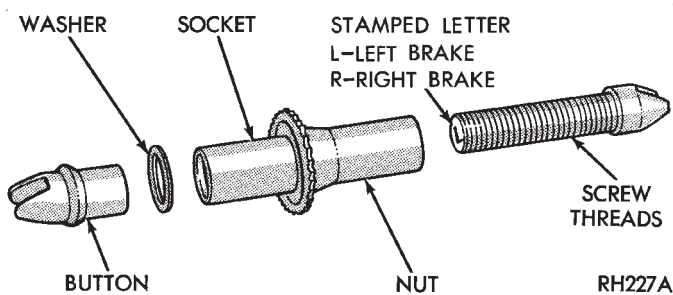
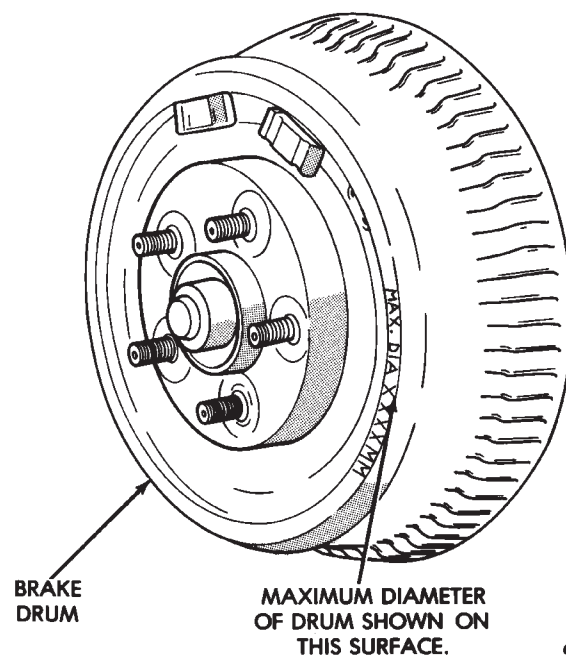

Fig. 8 Adjuster Screw Assembly
Fig. 1 Drum Maximum Diameter Identification
Clean the brake support plate, using a suitable solvent. Then inspect for rough or rusted shoe contact areas. Clean and inspect the adjusting screws for damaged threads. Apply a thin film of lubricant such as Mopar® Multi-Purpose Lubricant or equivalent to the adjuster threads, socket and washer (Fig. 8). Replace adjuster screw assembly if corrosion of any part inhibits very free operation.
(7) Insert protruding hole rim of cable guide (Fig. 1 or 2) into hole in secondary shoe web. Holding guide in position, engage secondary shoe return spring through both, hole in guide, and hole in web. Using Installer, Special Tool C-3785, install spring over anchor (Fig. 3). (Be sure cable guide remains flat against shoe web and that secondary spring overlaps primary (Fig. 1 & 2). Using pliers, squeeze ends of spring loops (around anchor) until parallel.
(8) Install adjuster screw assembly (Fig. 8) between primary and secondary shoes, with star wheel of adjuster screw assembly next to secondary shoe (Fig. 1 & 2). The left star wheel adjusting stud end is stamped (L) (indicating its position on the vehicle) and the star wheel is cadmium plated (Fig. 8). The right star wheel is black and the adjusting stud end is stamped (R). Install shoe to shoe spring between shoes (Fig. 1). (Engage primary shoe first).
(9) Install adjusting lever spring (Fig. 1 & 2) over pivot pin on shoe web. Install adjusting lever under spring and over pivot pin. Slide lever slightly rearward to lock in position.
(10) Thread adjuster cable over guide and hook end of overload spring in lever (Fig. 1 & 2). (Be sure eye of cable is pulled tight against anchor and in a straight line with guide). Check operation of automatic application adjuster by pulling adjuster cable rearward, star wheel should rotate upwards.
All drums will show markings of maximum allowable diameter (Fig. 1). For example, a drum will have a marking of MAX. DIA. 231.0 mm (9.09 inch). This marking includes 0.76 mm (0.030 inch) for allowable drum wear beyond the recommended 1.52 mm (0.060 inch) of drum refacing.